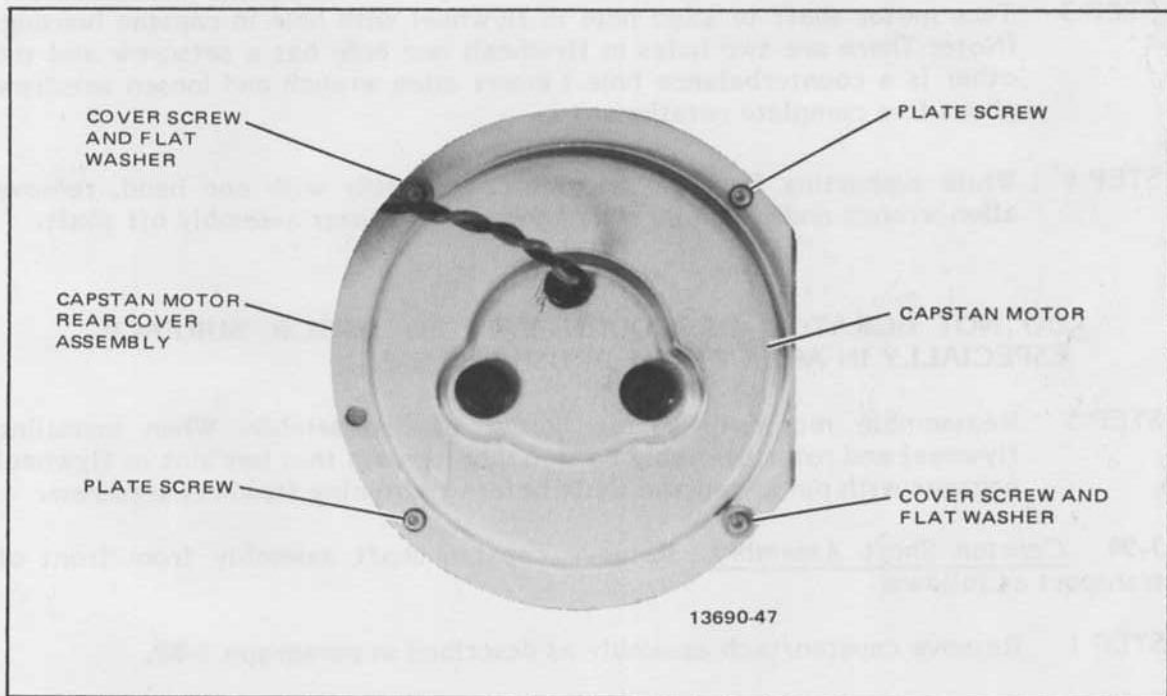

Figure 5-49. Rear View of Capstan Motor Assembly
- STEP 1 Remove only the two cover screws and flat washers shown in Figure 5-49 that secure the capstan motor rear cover to the motor (not the place screws).
- STEP 2 Remove two hex-socket plate screws (Figure 5-49) that secure the 1/16-in. thick plate to capstan housing.